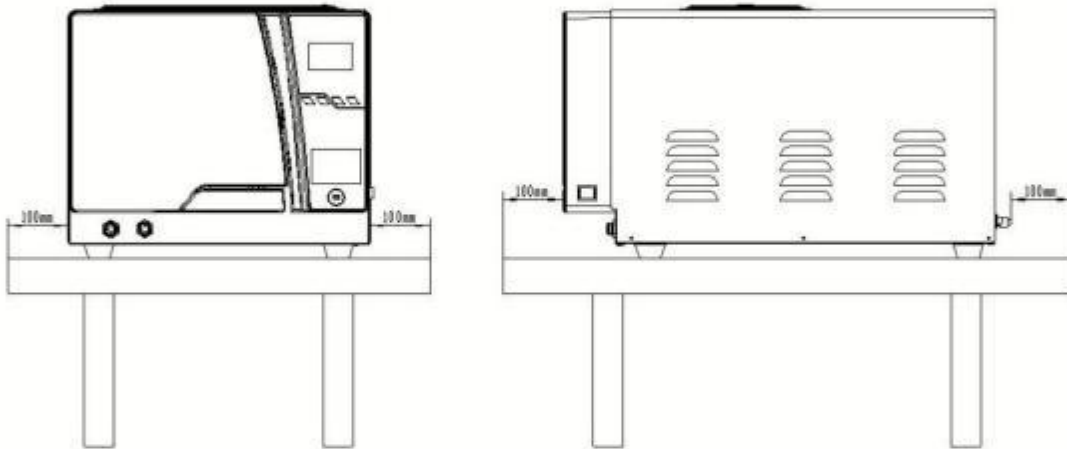

figure 2
A. There should be at least 10cm spacing around the installation of the sterilizer, and 20cm at the top. As shown in Figure 2